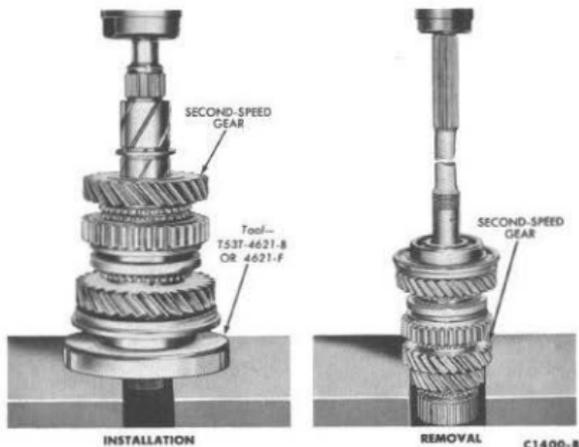

FIG. 58—Removing and Installing Output Shaft Bearing
16. Place the output shaft assembly in an arbor press as shown in Fig. 58 and press the bearing, adapter, first gear, first and second synchronizer assembly and second gear off the shaft.
7. Assemble the output shaft ball bearing into the recess in the bearing adapter. Position the adapter and bearing on the rear of the output shaft with the adapter forward. Hold the first gear and sleeve (bushing) forward and place the assembly in a press with the tool resting against the rear of the bearing inner race. Press the bearing until it is seated firmly against the first gear sleeve (bushing) (Fig. 58).